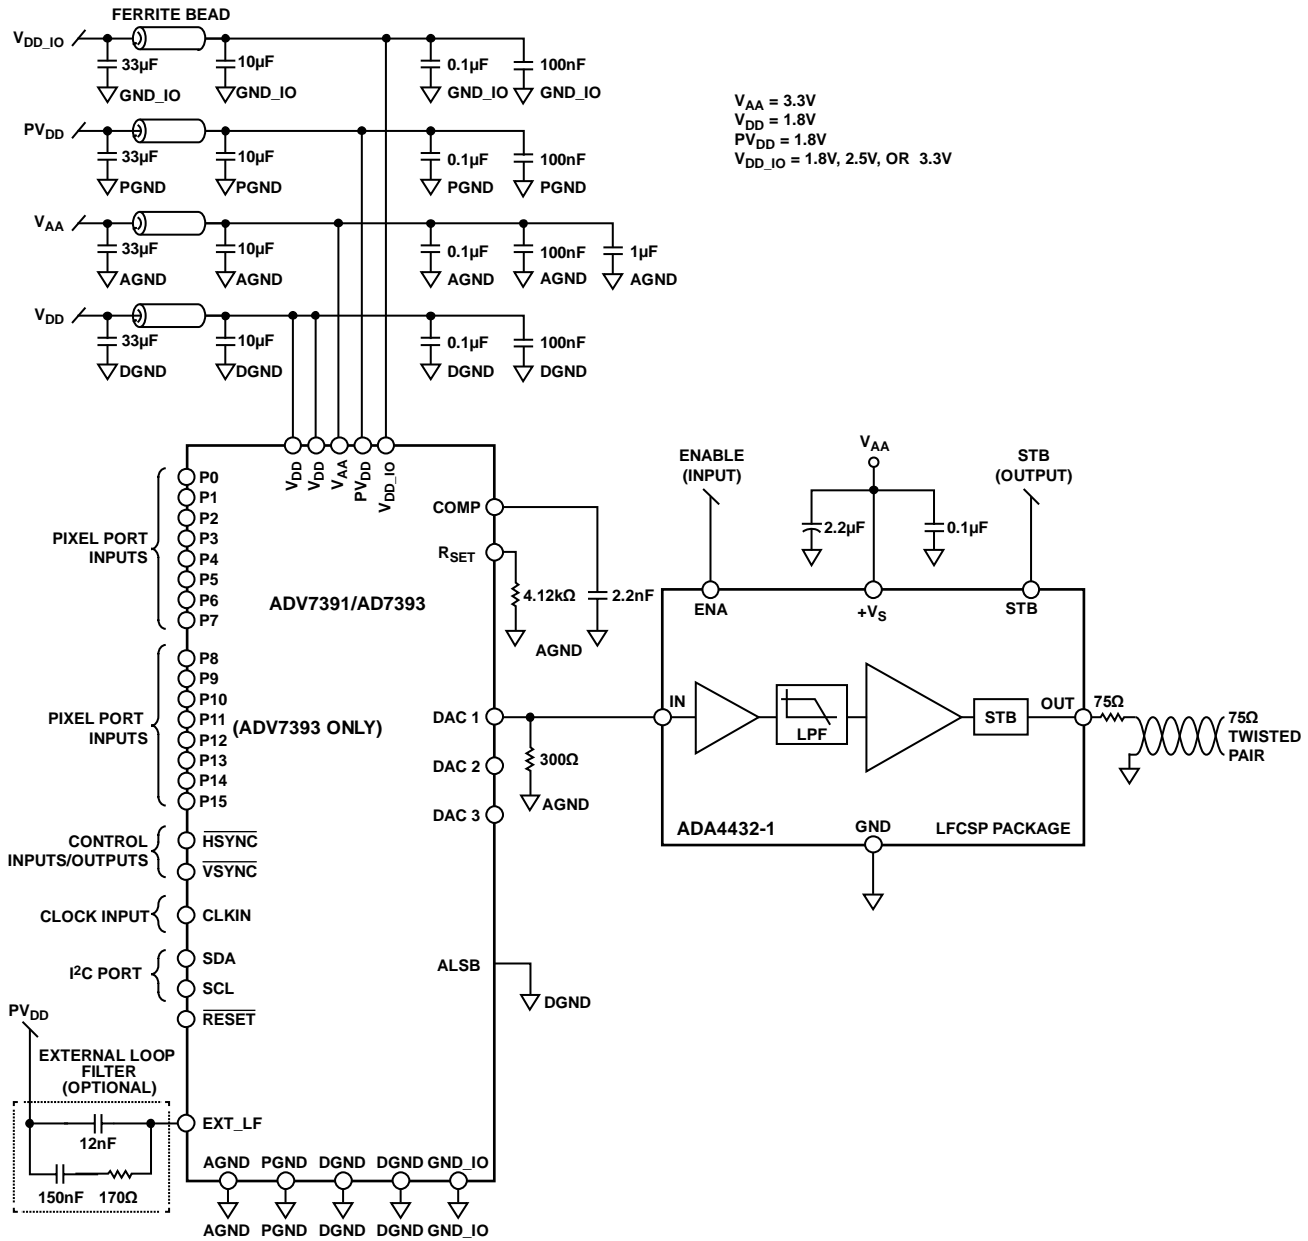

Figure 1. Low Cost, Fully Integrated Reconstruction Filter using the ADA4432-1 (All Connections and Decoupling Not Shown)
The circuit in Figure 1 shows a digital-to-analog video converter paired with a low cost, low power, fully integrated reconstruction video filter with output short-to-battery (STB) protection, ideal for CVBS video transmission in harsh infotainment environments such as automotive applications. Although many video encoders (video DACs), such as the ADV7391, can drive a video load directly, it is often beneficial to use a video driver at the output of a video encoder for power savings, filtering, line driving, and overvoltage circuit protection. The main purpose of a video driver, typically configured as an active filter (also known as a reconstruction filter), is twofold: it blocks the higher frequency components (above the Nyquist frequency) that were introduced into the video signal as part of the sampling process, and it provides gain to drive the external 75 Ω cable to the video display.
The ADV7391 is a low power, fully integrated digital video encoder that converts digital 8-bit component video data from a CMOS imager into a standard analog baseband video signal compatible with worldwide standards. Three, 10-bit digital-to-analog video converters (operating on $V_{AA} = 2.6$ V to 3.46 V) provide support for composite (CVBS), S-video (YC), or component (YPrPb/RGB) analog outputs in either standard definition (SD) or high definition (HD) video formats. The circuit in Figure 1 is configured for low output drive through DAC1 only. To conserve more power, the other DACs and phase-locked loop (PLL) are turned off. Low drive mode is defined as 4.33 mA full-scale output current. The ADV7391 contains an R_{SET} pin. A resistor connected between the R_{SET} pin and AGND is used to control the full-scale output current. For low drive operation, R_{SET} must equal 4.12 k Ω , and R_L must equal 300 Ω . The resistor connected to the R_{SET} pin must have a 1% tolerance.
The **ADV7391** includes an on-chip, PLL that allows for over-sampling video data. As shown in Figure 1, the PLL is disabled (Subaddress 0x00, Bit 1 = 1) providing an SD oversample rate of 2x. With the PLL disabled, the external loop filter components are removed to save space and cost.
In Figure 1, the **ADA4432-1** is configured as a single-ended-to-single-ended driver that allows unbalanced transmission using twisted pair cable, untwisted cable, or coaxial cable.
See Figure 1 of this circuit note for the circuit block diagram and the EVAL-CN0264-EB1Z-SCH.pdf file for the circuit schematics. This file is contained in the CN0264 Design Support Package.